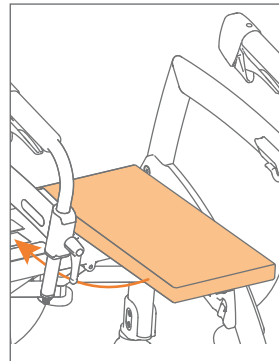

Figure 12: Pull away the cushion and attach it on the seat.
- c. Pull away the seat cushion and place it straight on the seat (**Figure 12**).